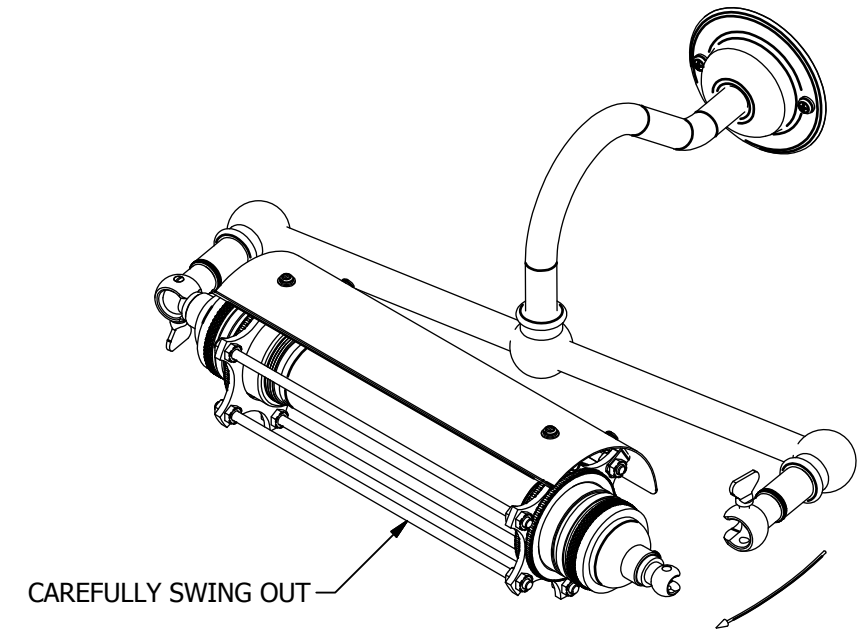

Figure 2.
- 4) Carefully swing out the cage / bulb assembly. (Figure 2.)